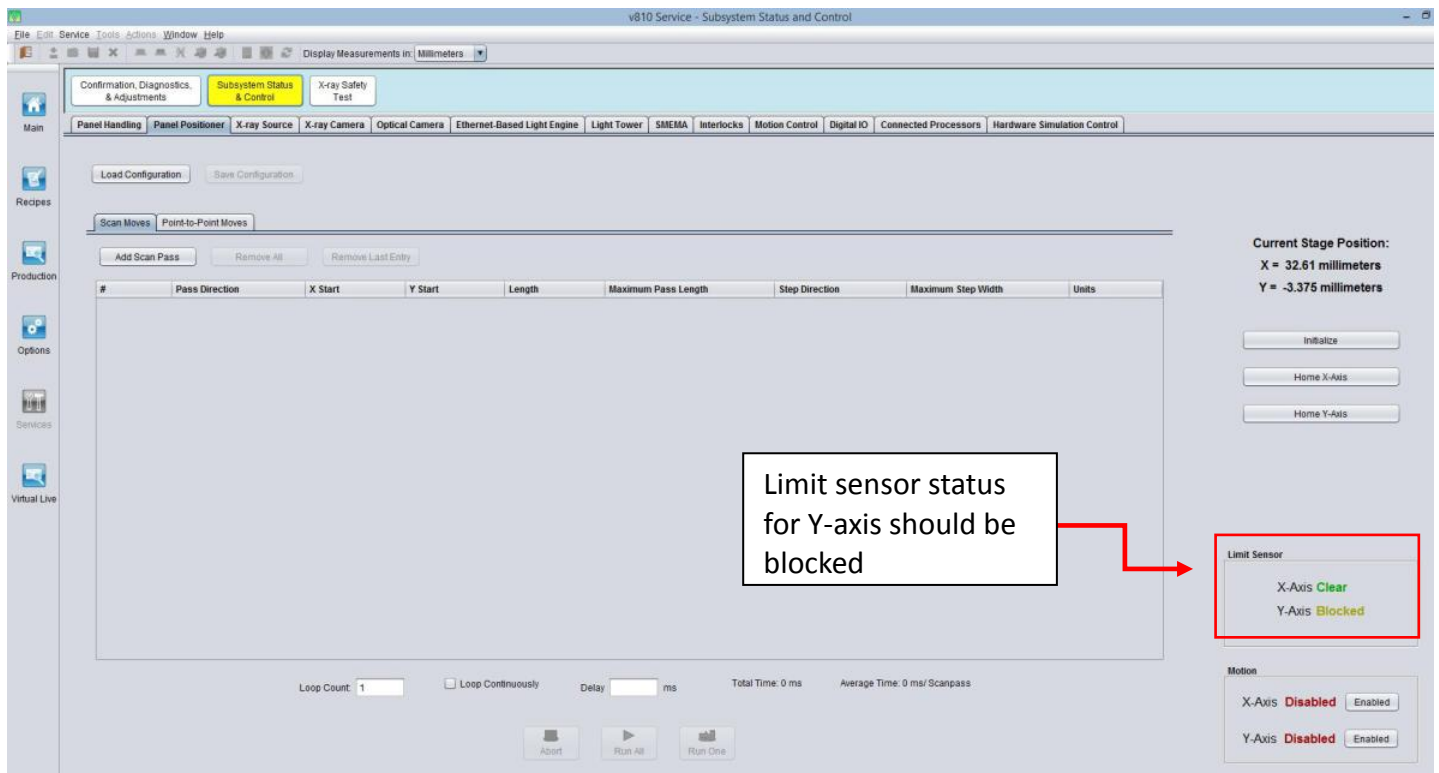

Figure 27 Y axis Limit Sensor
42. Push the stage to the minimum hard stop (left outer barrier side) and the status of the X-axis limit sensor should be blocked as shown in Figure 27.